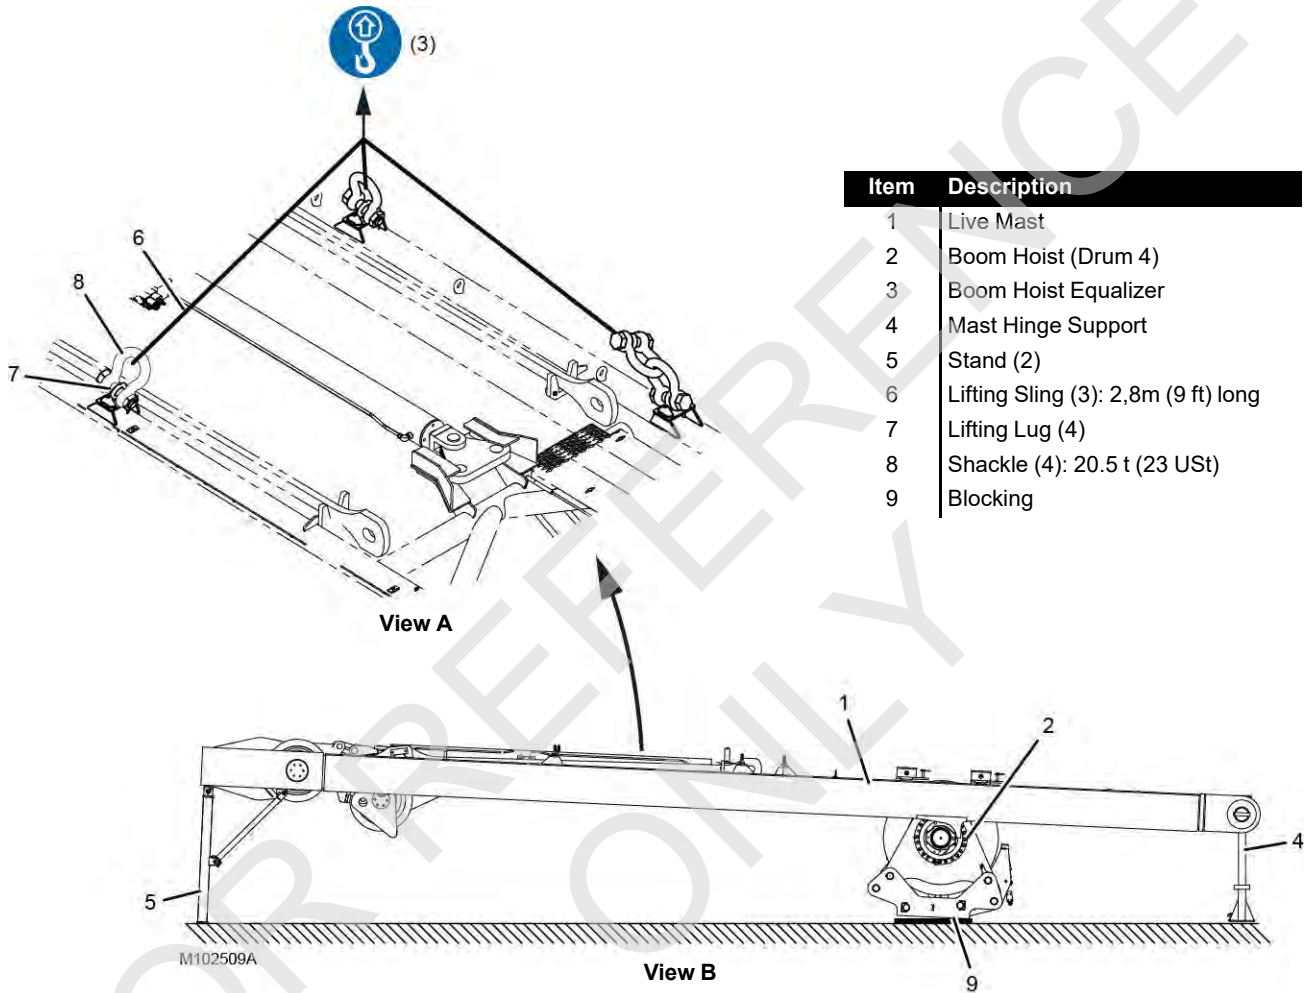

Figure 4-24
See Figure 4-24 for the following procedure.
An assist crane is required to handle, install, and remove the live mast. The assist crane must meet the specifications given in Figure 4-24.
- Lift only with the specified rigging at the locations shown in Figure 4-24.